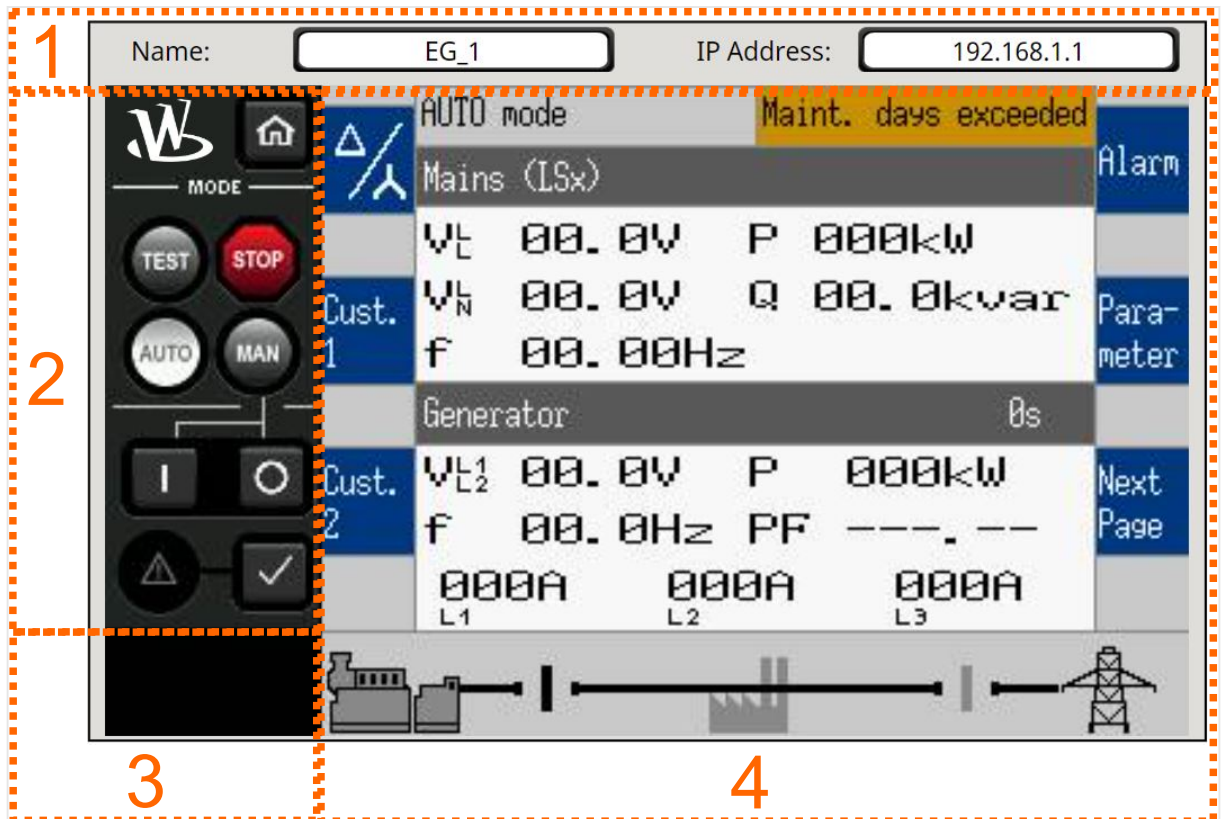

Fig. 92: Remote HMI screen of easYgen-XT - example easYview 10/15 inch
For 10 and 15 inch easYview: On the top of the Remote HMI screen, refer to  Fig. 92 area (1)